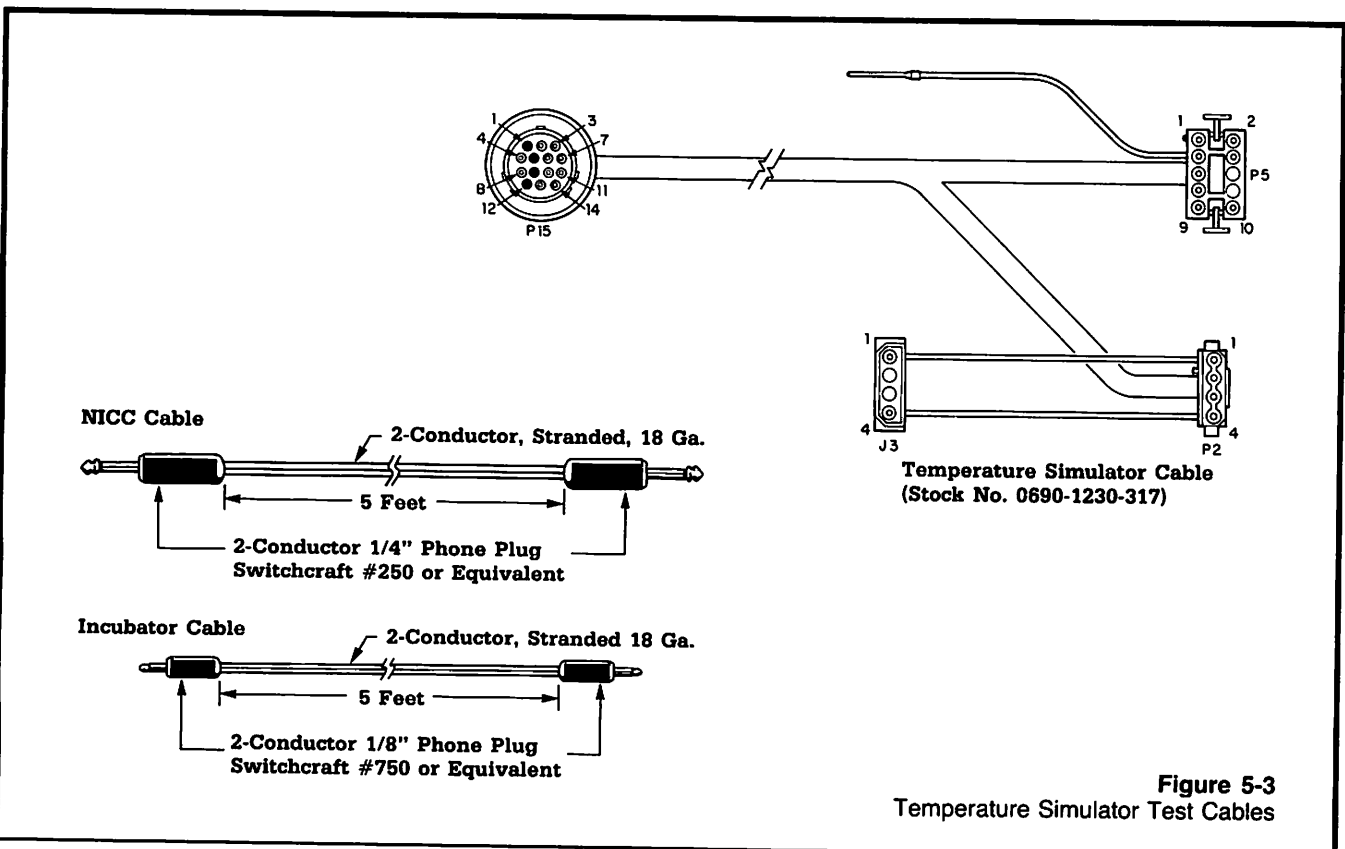

Figure 5-3
4. Measure the resistance of the test cable terminals listed in Figure 5-3. The resistance measured must be less than 0.15 ohms.